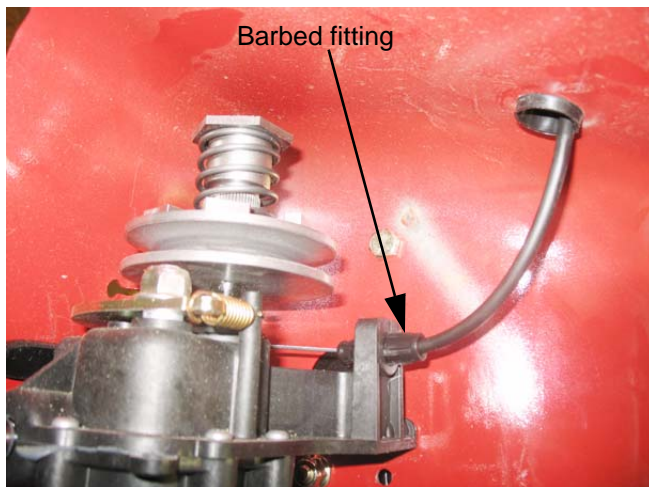

Figure 5.16
2. A barbed fitting and a spring connect the bottom end of the clutch cable to the transmission. See Figure 5.16.